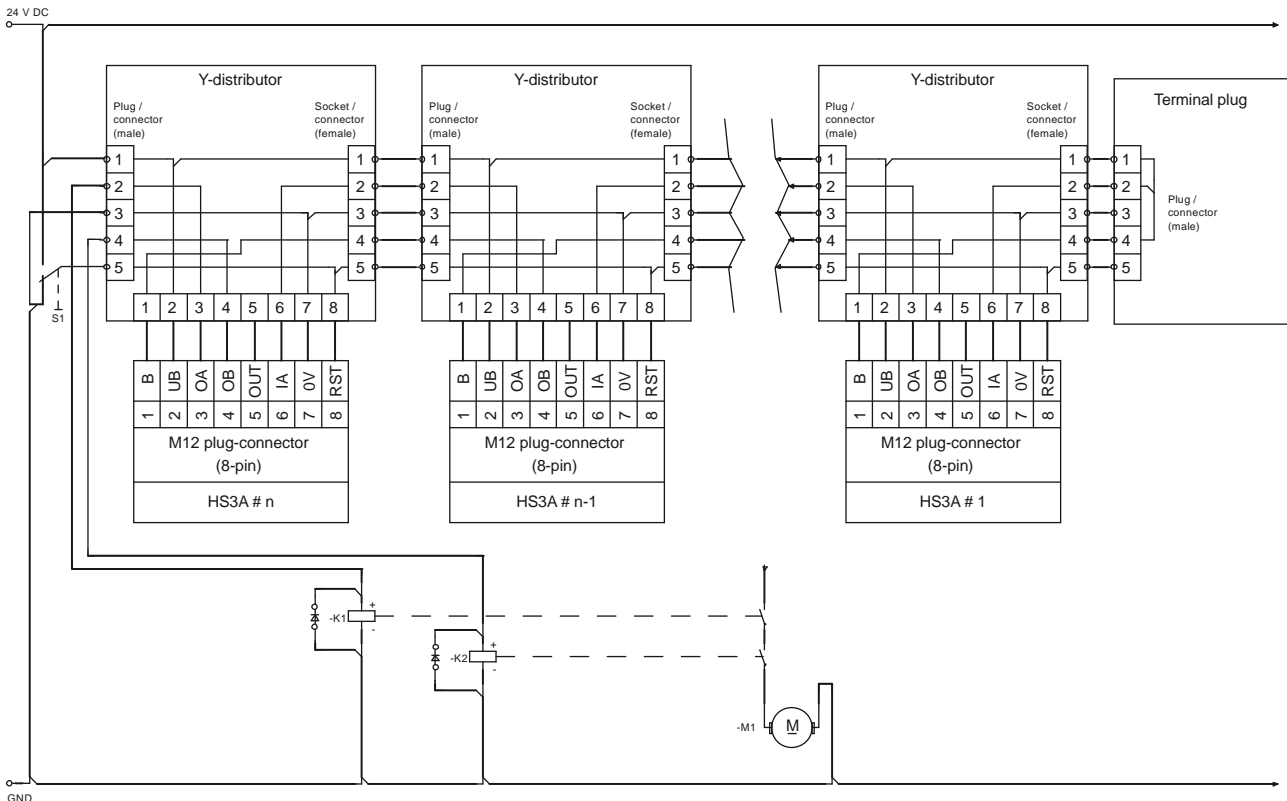

Figure 9: Connection example for series connection
- ▶ A common signal must be used for all switches in the chain. This can be a changeover switch or the output of a control system. A button is not suitable because Reset must always be be connected to GND during operation (see switch S1 in Figure 9).